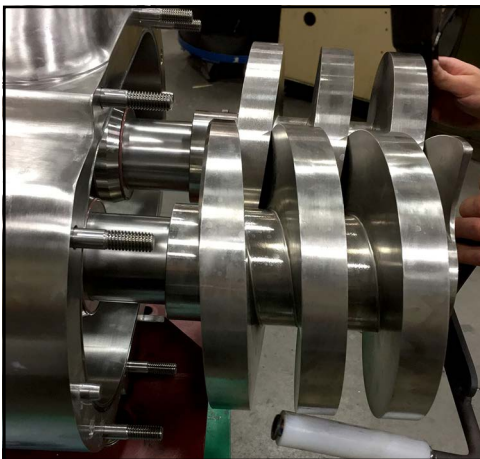

Figure 113 - Slide screws onto shafts
7. (220-UTS) Roughly line up the indexing teeth of the screw and shaft splines, then slide the screws onto the shafts as a pair. The screws will go on about halfway and then stop. At this point you can let the screws rest on the shafts, as shown in Figure 113.